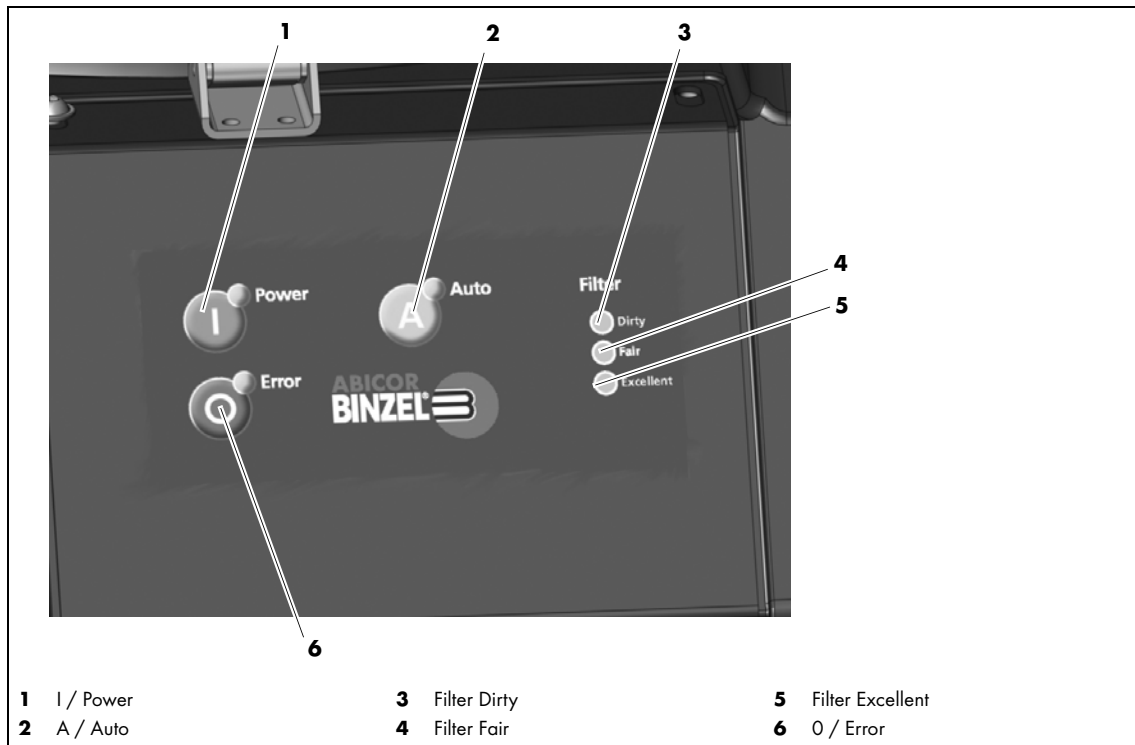

Fig. 3 Control elements
- 1 Connect the torch system (4), hose, and rubber connector to the fume extraction system (1).
- ⇒ Fig. 3 Control elements on page EN-10